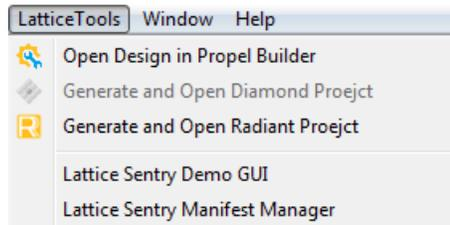

Figure 3.8. LatticeTools Menu
- Choose **LatticeTools >  OpenDesign in Propel Builder (Figure 3.8).**